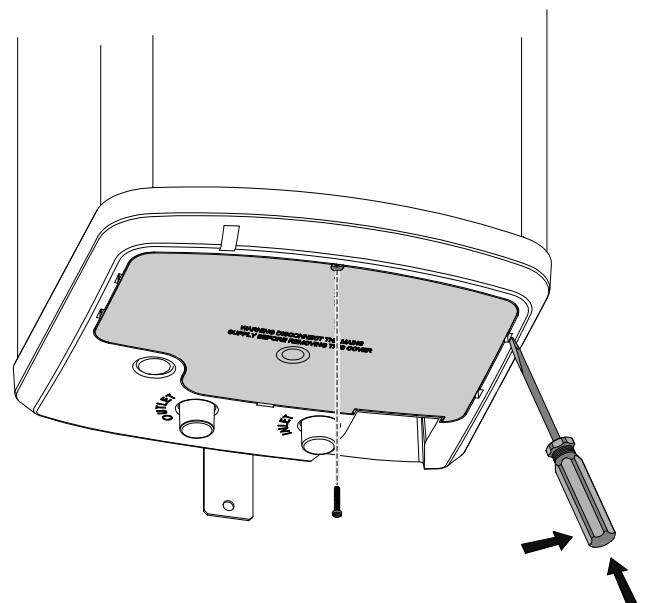

Figure 10: Cover removal
- ▶ The temperature control is underneath the cover, please see figure 10, page 18 on how to remove.
- ▶ When empty, open the cover to the immersion heater housing. Remove the securing screw then release the cover by carefully inserting a flat bladed screwdriver into the slots around the cover and gently levering outwards until the catches release (see Figure 10, page 18).